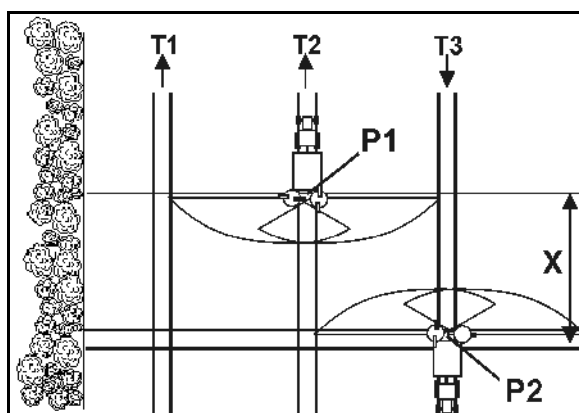

Fig. 69
- Open the slide gate after entering the tramline at point **P1** (Fig. 69), when the spreader discs are at distance X from the tramline of the headland.
- Close the slide gate before leaving the tramline at point **P2** (Fig. 69), when the spreader discs are located at the level of the first tramline of the headland.